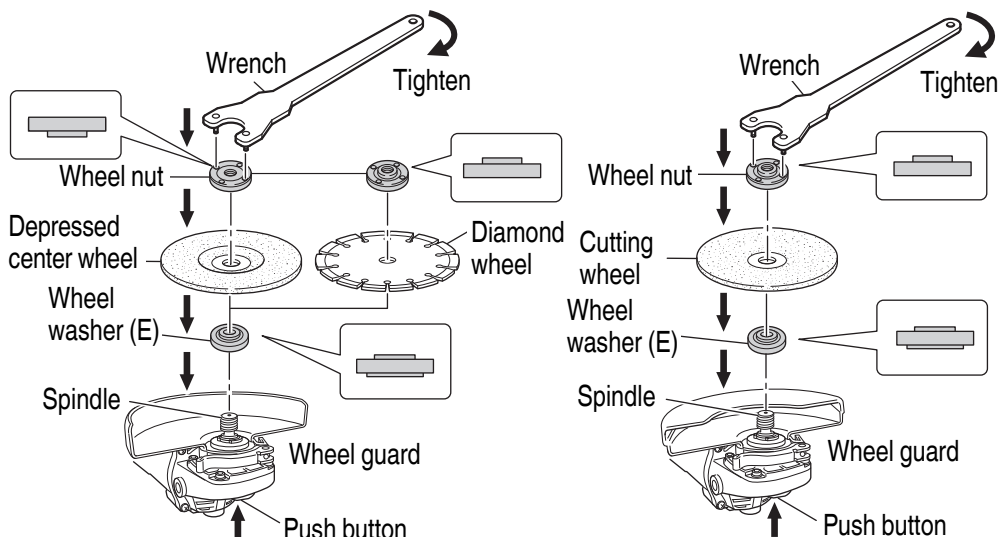

Fig. 13
- (1) Turn the disc grinder upsidedown so that the spindle is facing upward.
- (2) Align the across flats of the wheel washer (E) with the notched part of the spindle, then attach them.
- (3) Fit the protuberance of the depressed center wheel onto the wheel washer (E).
- (4) Screw the wheel nut onto the spindle.
- (5) While pushing the push button with one hand, lock the spindle by turning the depressed center wheel slowly with the other hand.
- Tighten the wheel nut by using the supplied wrench as shown in **Fig. 13**.